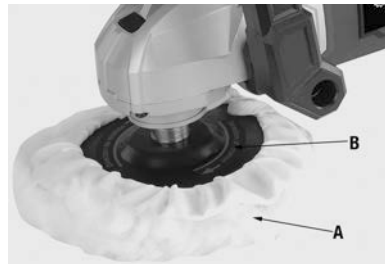

Figure 3
For polishing purposes, the wool bonnet (A) Fig.3 gets installed over the hook-and-loop polishing/sanding back-up pad (B). Slip the wool bonnet over the polishing/sanding back-up pad, secure the wool bonnet in place using the bonnet strings.